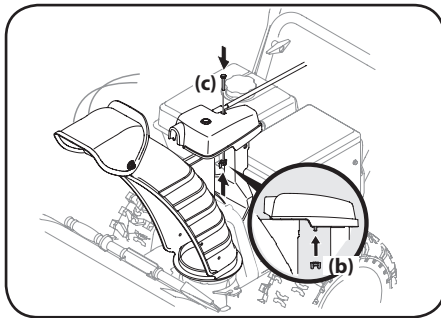

Figure 2-26
4. Finish securing chute control assembly by installing hex screw (c) and wing nut (b) removed in Step 1. See Figure 2-26.